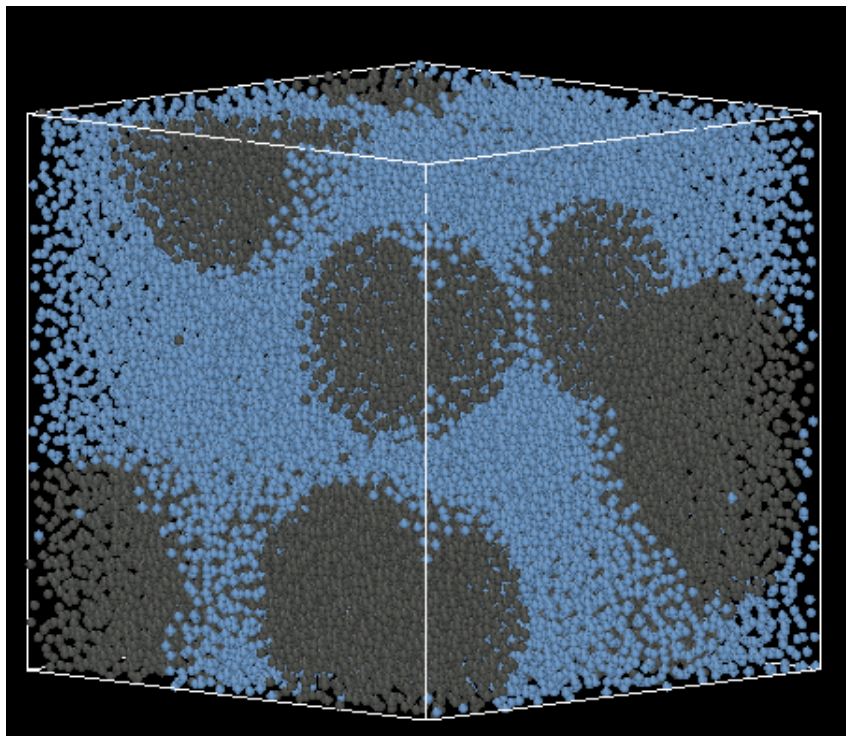

FIGURE 1.2. A nanoporous system of randomly placed spheres.
- Figure 1.2 shows a system of 20 such spheres.